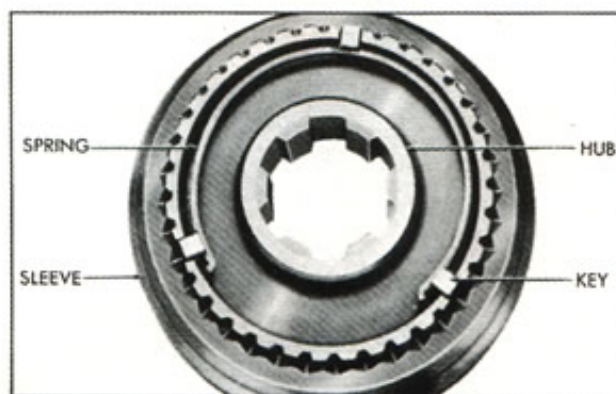

Fig. 10—Clutch Assembly
3. Place the two springs in position (one on each side of hub), so all three keys are engaged by both springs (Fig. 10). Place the keys in position and while holding them in place, slide the sleeve onto the hub, aligning the marks made prior to disassembly.